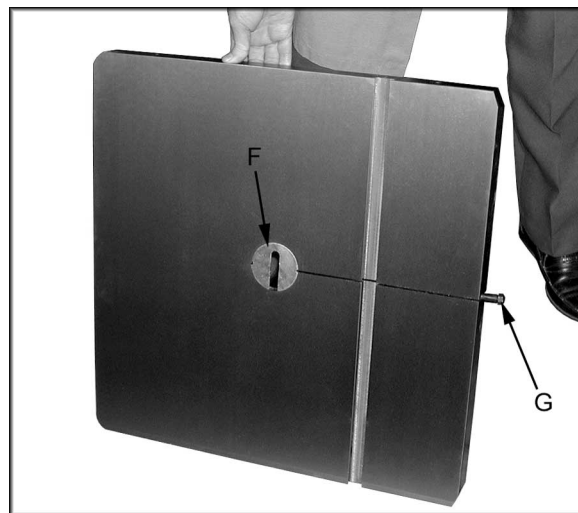

Figure 5
1. With help from another person mount the table. Remove the table insert (F, Figure 5) and table pin (G, Figure 5).